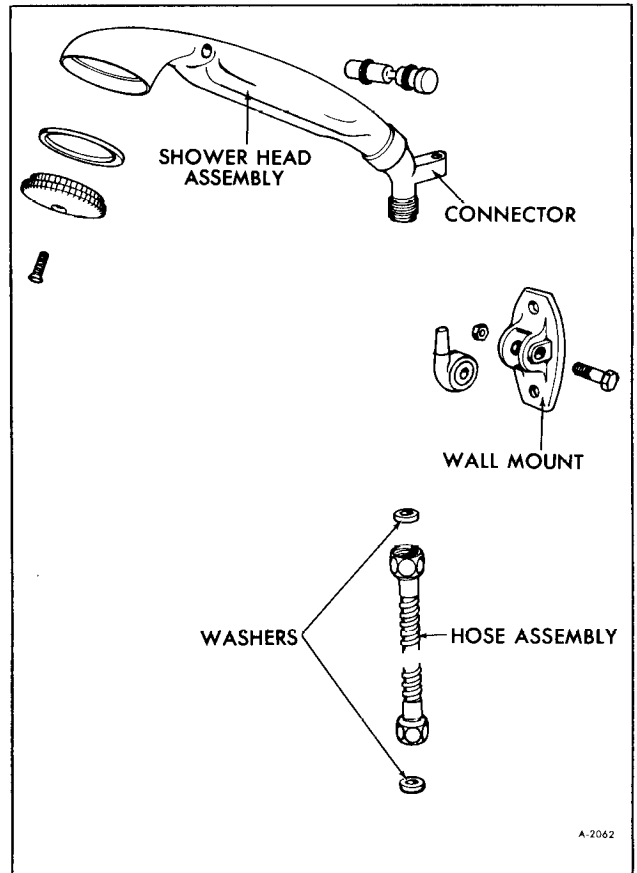

Figure 13–Shower Head Components
2. Remove shower head hose from wall connection (See figure 13).